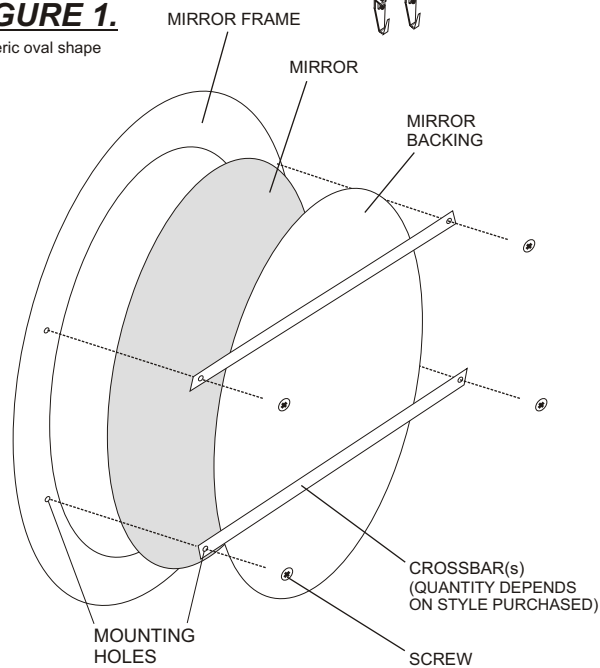

FIGURE 3.
5. (Refer to FIGURE 3) Locate (1) MIRROR HANGER and align the top center with (1) 3" locator mark. Secure to wall surface with (2) HANGER NAILS. Repeat process for remaining MIRROR HANGER. **Please note the MIRROR HANGERS are fully adjustable allowing for easy leveling.**
6. With MIRROR HANGERS properly installed, be sure to make sure that the (2) BRACKET CATCHES are approximately equal in length from the top of MIRROR HANGERS. Adjust overall length with ADJUSTMENT SCREW.
7. With the help of another person, pass the TOP CROSSBAR (for 2 CROSSBAR ASSEMBLY or MIDDLE CROSSBAR (for 3+ CROSSBAR ASSEMBLY) over the MIRROR HANGERS so that the crossbar rests on the inside of the (2) CROSSBAR CATCHES.